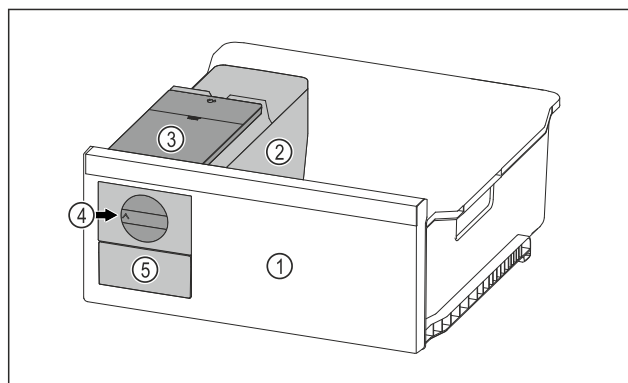

Fig. 61 Example illustration
- Turn the rotary knob Fig. 61 (4) clockwise as far as it will go.
- ▷ Ice cubes fall from the ice cube tray into the ice cube drawer Fig. 61 (5).